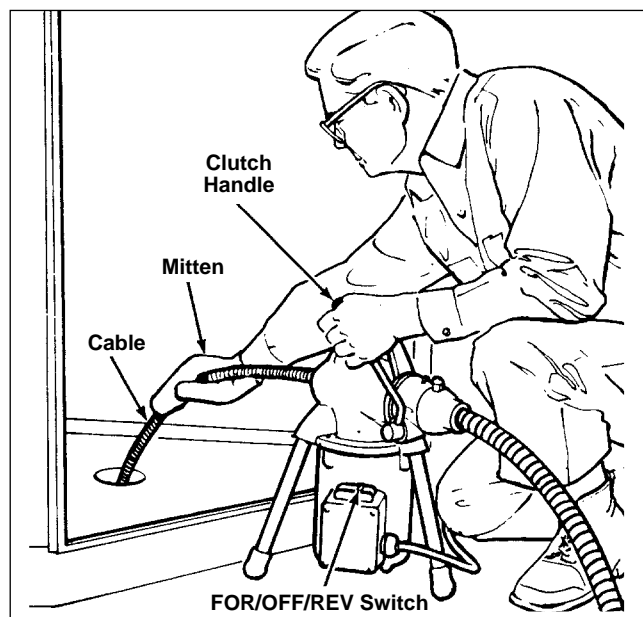

Figure 6 – Proper Operating Position
1. Assume the correct operating posture in order to maintain proper balance (Figure 6).
1. Assume the correct operating posture in order to maintain proper balance (*Figure 6*).